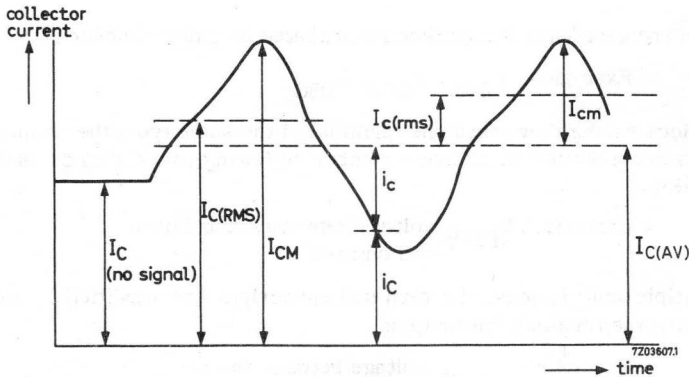

Fig. 1
4. List of subscripts (examples, see figure 1)
Figure 1 represents a transistor collector current, consisting of a direct current and a signal, as a function of time.